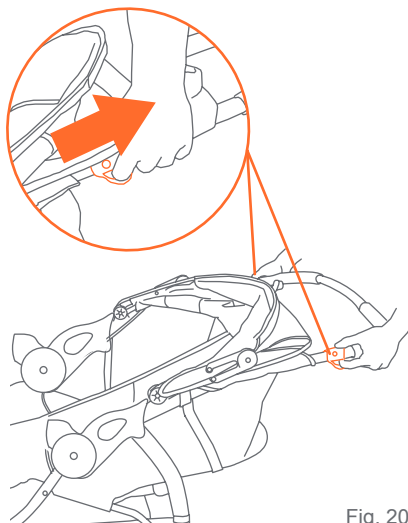
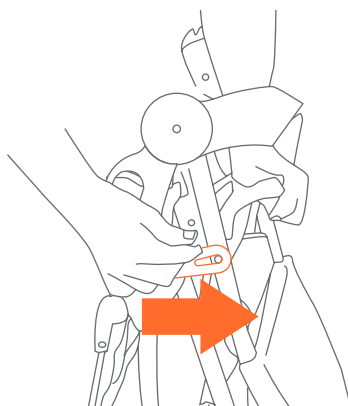

Fig. 20a
Fig. 20b
- The stroller is folded by simultaneously pulling each trigger (Fig. 20a). When the fold latches are released, the handle will begin to fall toward the floor. Release the trigger and press downward on the stroller handle until the stroller is completely folded. Secure the stroller in the folded position by locking the fold latch, located on the right side of the stroller, over the rivet that protrudes from the frame (Fig. 20b).